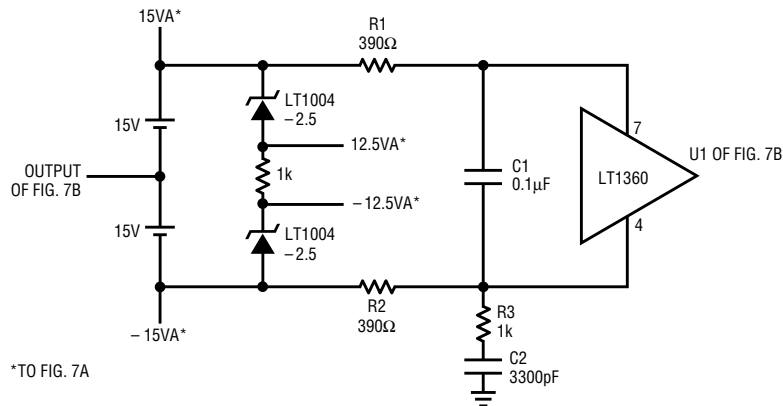

Figure 7c. Connection diagram for the $\pm 15\text{V}$ floating supply
*FROM FIG. 7c
Finally, Figure 7c shows how to connect the $\pm 15\text{V}$ floating supply and also details the PSRR snubber for the LT1360 (R1, R2, R3 and C2).